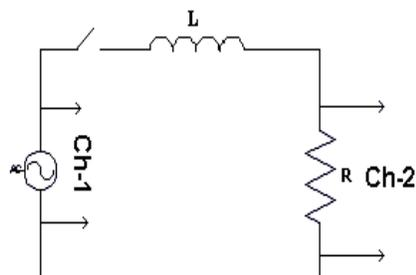

Fig.1
1. Construct the circuit as shown in the fig.1. Connect channel 1 of the oscilloscope across function generator and channel 2 of the oscilloscope across R.